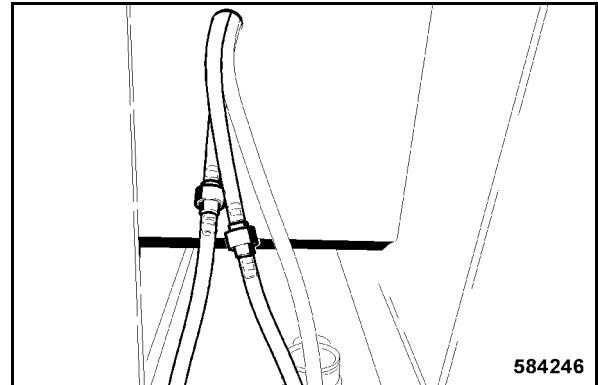

Fig. 224
- Plug on the hoses for the washing water supply to front and rear windcreens 1 (Fig. 224).